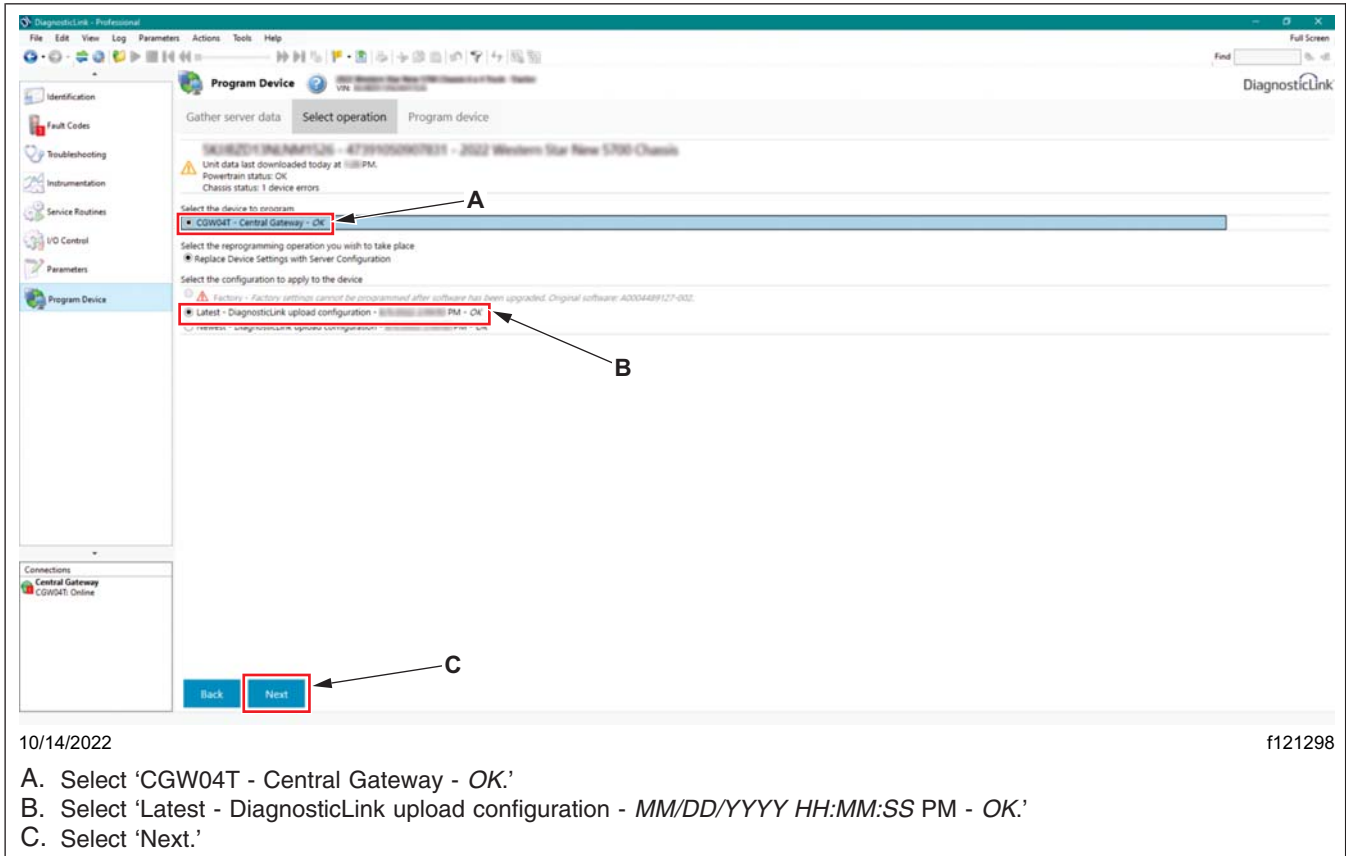

Fig. 16, Selecting the Device Configuration
21.1 Select 'CGW04T - Central Gateway - OK' as the device to program. See Fig. 16.
21.2 Select 'Latest - DiagnosticLink upload configuration - MM/DD/YYYY HH:MM:SS PM - OK' as the configuration to apply to the device. See Fig. 16.
21.3 Select 'Next.' See Fig. 16.